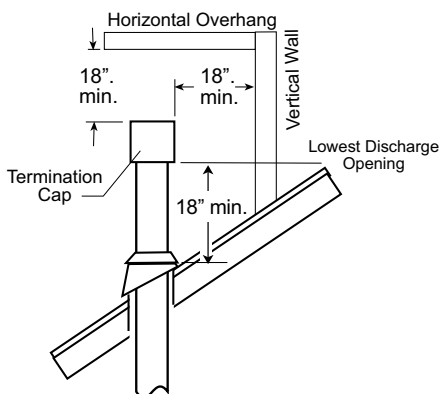

Figure 6.5. Vertical vent termination height above roof.
- **Vent Terminus Clearance:** In no case shall any discharge opening on the cap be less than 18 in. (457 mm) horizontally from the roof surface. See fig. 6.5.